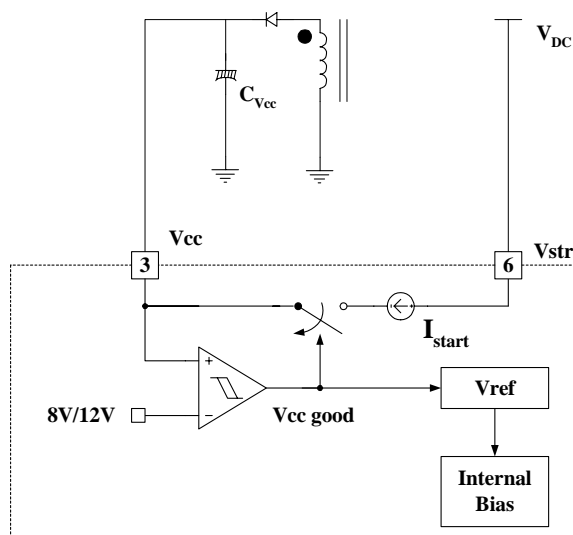

Figure 4. Internal startup circuit
1. Startup : In previous generations of Fairchild Power Switches (FPS™) the Vcc pin had an external start-up resistor to the DC input voltage line. In this generation the startup resistor is replaced by an internal high voltage current source. At startup, an internal high voltage current source supplies the internal bias and charges the external capacitor (C_{Vcc}) that is connected to the Vcc pin as illustrated in figure 4. When Vcc reaches 12V, the FPS™ begins switching and the internal high voltage current source is disabled. Then, the FPS™ continues its normal switching operation and the power is supplied from the auxiliary transformer winding unless Vcc goes below the stop voltage of 8V.